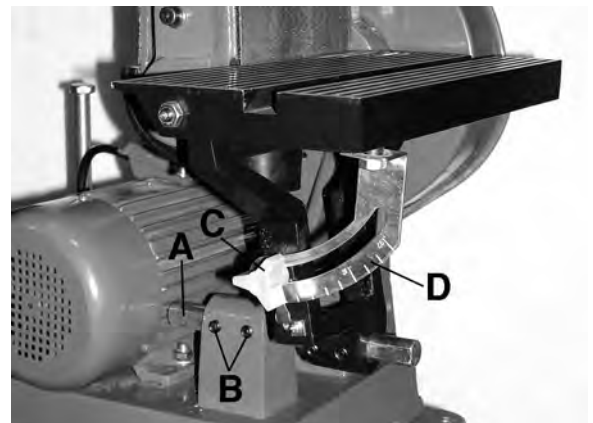

Figure 16
1. Remove the tilting table assembly from the sanding disc position and reposition it as shown in Fig.16.
2. Position the tilting table maximum 1/16" away from the sanding belt and then secure the support shaft (A) Fig.16 in place by tightening the 2 set screws (B).
The tilting table can be tilted from 0°- 45° by loosening the table lock knob (C) Fig.16, tilt the table to the desired angle as indicated on the table scale (D) and retighten lock knob. Make sure the desired angle is true, to set the table square with the belt, use a combination square. If the angle pointer needs to be repositioned, loosen pointer screw and readjust.